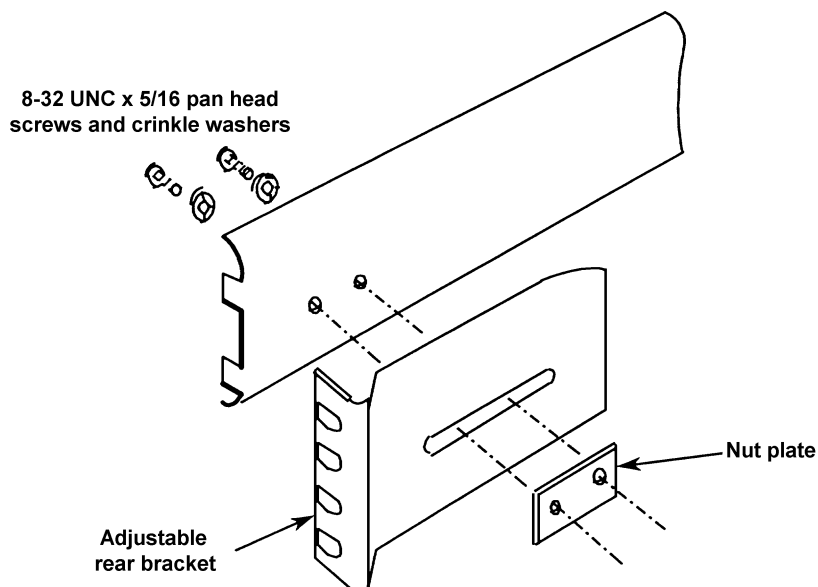

Figure 2.6 - Fitting a rear bracket
3. Fit the following items to the telescopic slide outer members, as shown in Figures 2.6 and 2.7: